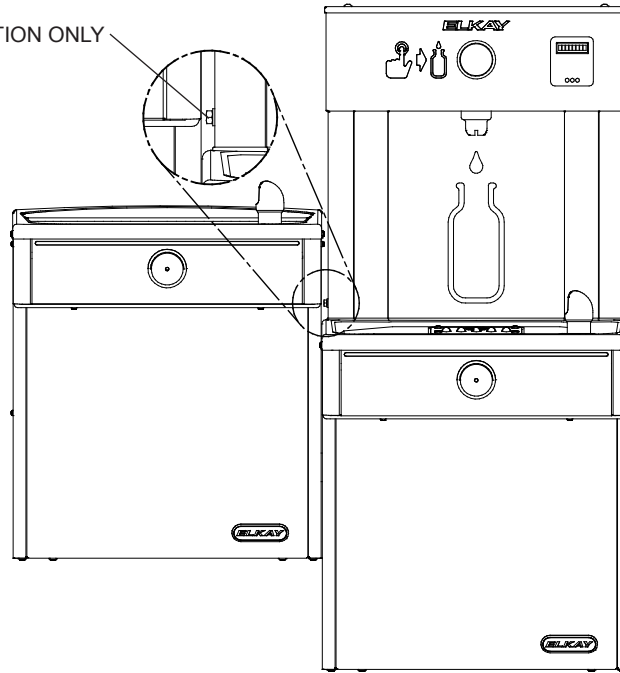

Fig. 7
- 2) **Loosen but DO NOT remove the Pinned Torx Head Screw** from the outer side of the Bottle Filler and loosen but DO NOT remove the 1/4" hex. head bolt from between the two cooler (See Figs 7 or 8). Remove the two (2) Pinned Torx Head Screws from the Top Cover & remove the Top Cover. The Bottle Filler may then be lifted up and off the Water Cooler (The water line and Remote Reset Button Wires will still be connected from the Water Cooler to the Bottle Filler.)